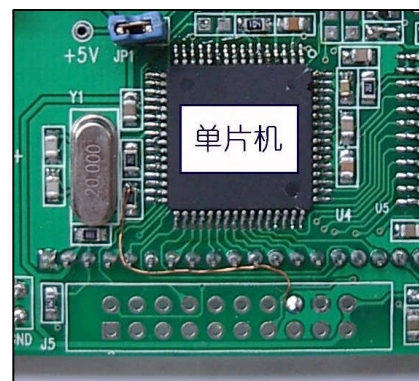

Fig. 2
- 3) Connect pin 16 of J5 to the end of R28 that is closer to R26 with a piece of wire. (Fig. 2)